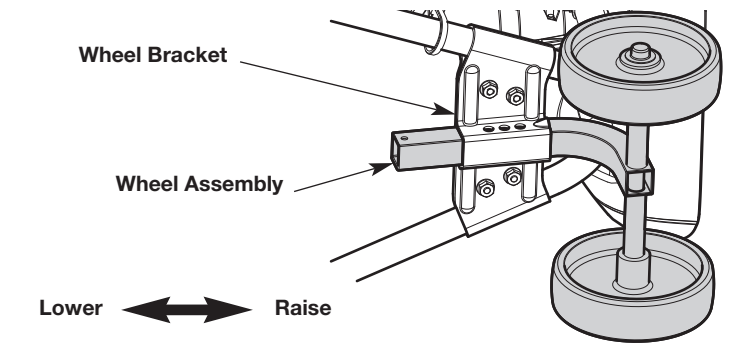

Fig. 1
1. Set the unit on its side (Fig. 1).
2. Insert the wheel assembly into the wheel bracket (Fig. 1).
3. Adjust the height by moving the wheel assembly along the wheel bracket (Fig. 1).